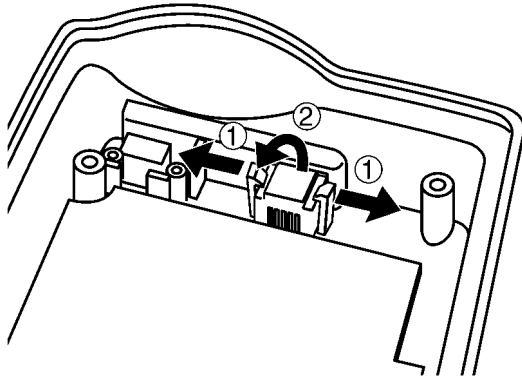

Fig. 1
1. Keep 2 hooks for TEL JACK fixing open in the direction of arrow 1, then pull the top of TEL JACK forward as shown arrow 2 until the hooks click. (Refer to **Fig. 1**.)